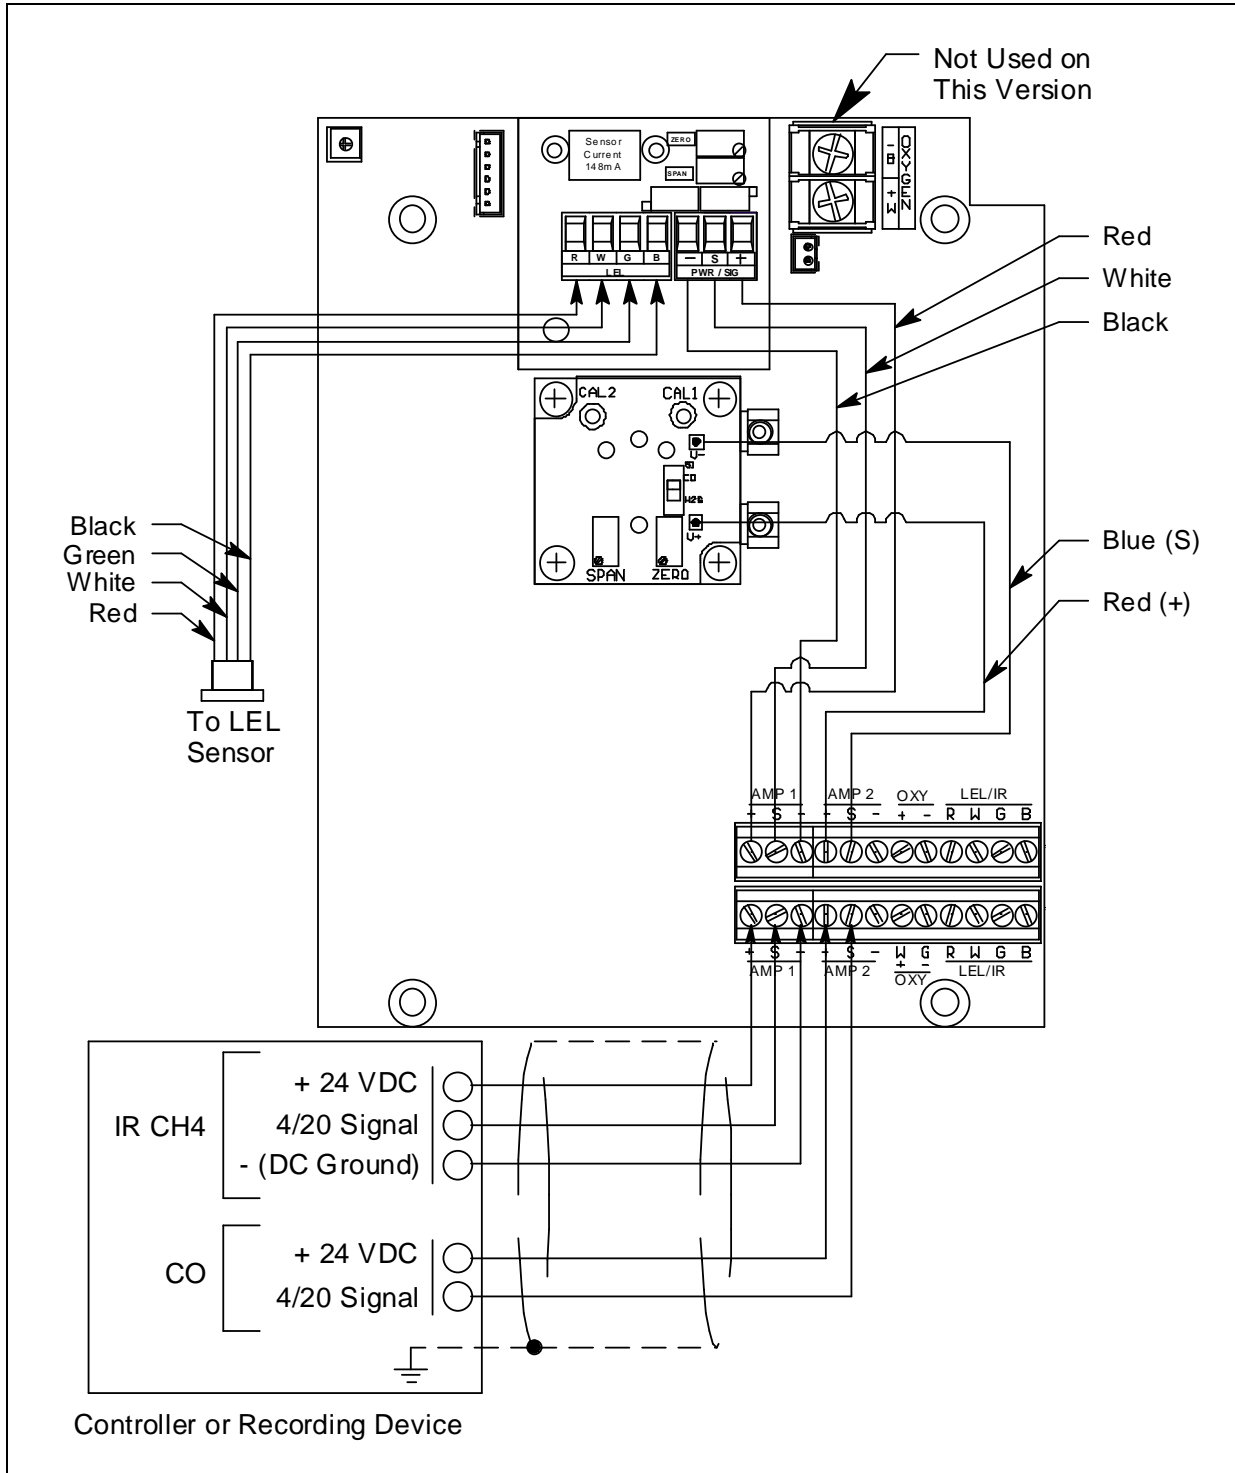

Figure 6: Wiring the Sample-Draw Detector to a Controller
5. Connect the cable to the sample-draw detector's interconnect terminal strip as shown in Figure 6.
- Connect the wires to the applicable detector/transmitter terminal strip at the controller as shown in Figure 6. Refer to the controller operator's manual and the controller detector head specification sheet for the 35-3001A-08 for detector/terminal strip connections specific to the controller.